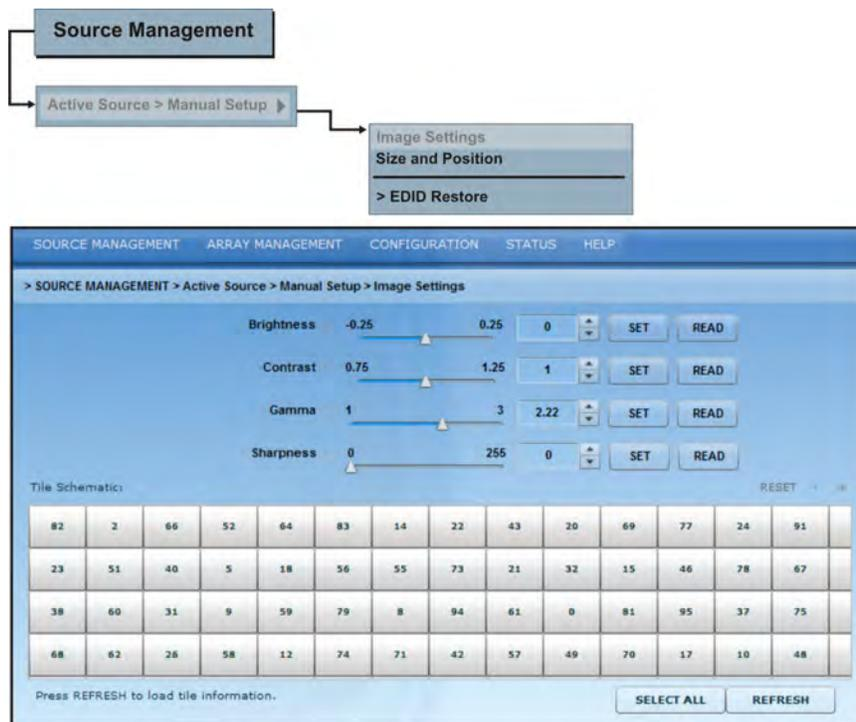

Figure 3-16 Image Settings
To access the Image Settings screen click **Source Management** from the top menu bar and select **Active Source > Manual Setup** from the drop-down menu that appears and then **Image Settings (Figure 3-16)**. This screen enables users to manually adjust image sharpness, contrast, brightness and gamma of the individual Christie MicroTiles or the entire array.
3. Click the **Read** button beside the **Brightness** section to query the ECU for the current brightness setting of the array (**Figure 3-16**). **Brightness**, **Contrast** and **Gamma** settings can be **Set/Read** only to the entire array and not to individual tiles. If you attempt to **Set/Read** to individual tiles the warning message; Please select a tile; this command cannot be broadcast to all tiles is generated. However, **Sharpness** settings can be **Set** for both the array and for individual tiles, but only **Read** for individual tiles.